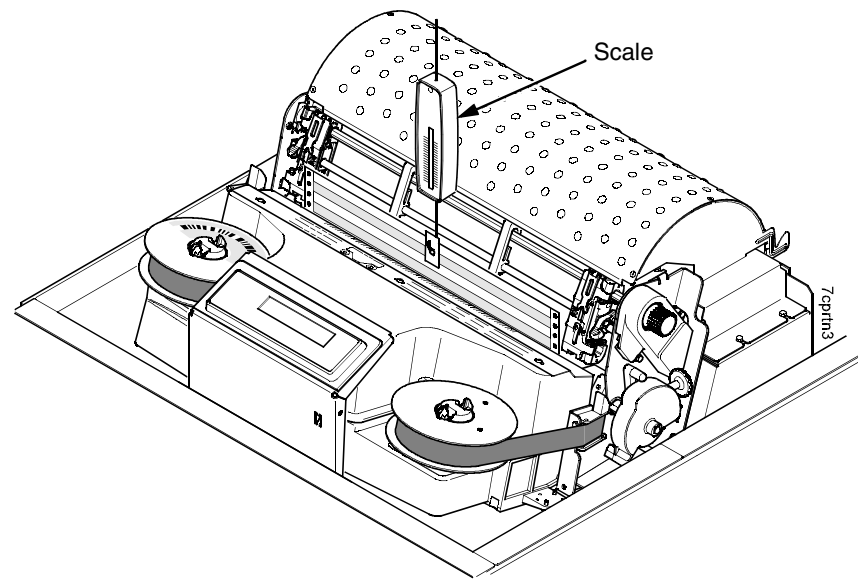

Figure 33. This figure shows how to use the “fish scale” to measure paper tension.
7. Attach the hook of a “fish scale” force gauge through the tape you installed in step 5. (See Figure 33.)
8. Pull the paper slowly straight up through the print station for about six inches and note the maximum force exerted on the scale. Do not pull any page perforations through the print station. (See Figure 33.)